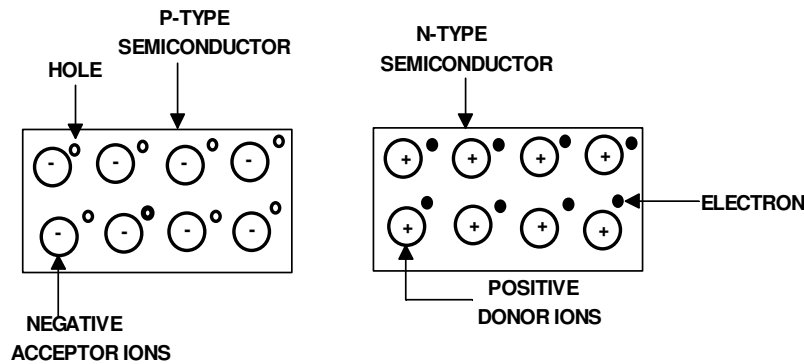

Fig. 51(a)
**Q.51** Discuss how a depletion layer is formed in a P-N diode and how does it vary with biasing? Draw V-I characteristics of P-N junction diode. **Marks (7)**
**Ans:** Formation of Depletion Layer in a P-N junction Diode: The two types of extrinsic semiconductors are p-type and n-type as shown in fig.51(a) The p-type semiconductor is having negative acceptor ions and positively charged holes. Whereas, the n-type semiconductor is having positive donor ions and negatively charged electrons.
When these two semiconductors are joined together and suitably treated, they form a pn junction. The moment they form a pn junction, some of the conduction electrons from n-type material diffuse over to the p-type material and undergo electron-hole recombination with the holes available in the valence band. Simultaneously holes from p-type material diffuse over to the n-type material and undergo hole-electron combination with the electrons available in the conduction band. In this process, some of the free electrons move across the junction from n-type to p-type, leaving behind positive donor ions as they are robbed of the free electrons. This establishes a positive charge on the n-side of the junction. Simultaneously, the free electrons which cross over the junction recombine with the holes of p-type and uncover some of the negative acceptor ions as shown in fig.51(d) This establishes a negative charge on the p-side of the junction. This process of diffusion continues till a sufficient number of donor and acceptor impurity ions are uncovered and establish a requisite potential difference (i.e. nearly 0.3 V in case the pn junction is formed of germanium semiconductor and 0.7 V for silicon pn junction). After this, further diffusion is prevented because now positive charge on n-side repels holes to cross from p-type to n-type and negative charge on p-side repels free electrons to enter from n-type to p-type.